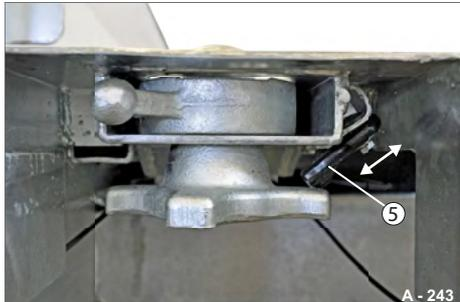

Fig. 156 "Twist-Lock" overview
- ▶ Raise the safety locking mechanism (Fig. 156/5) and secure it.